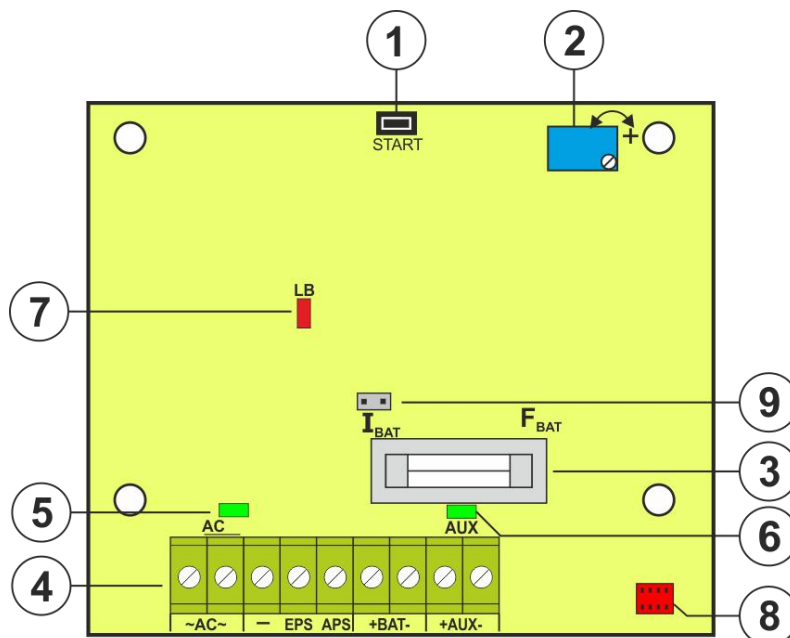
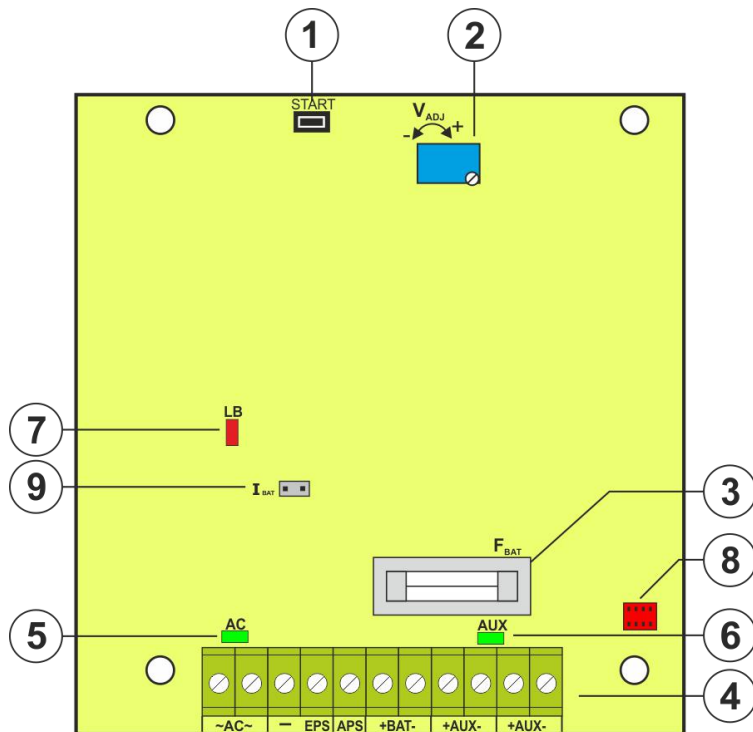
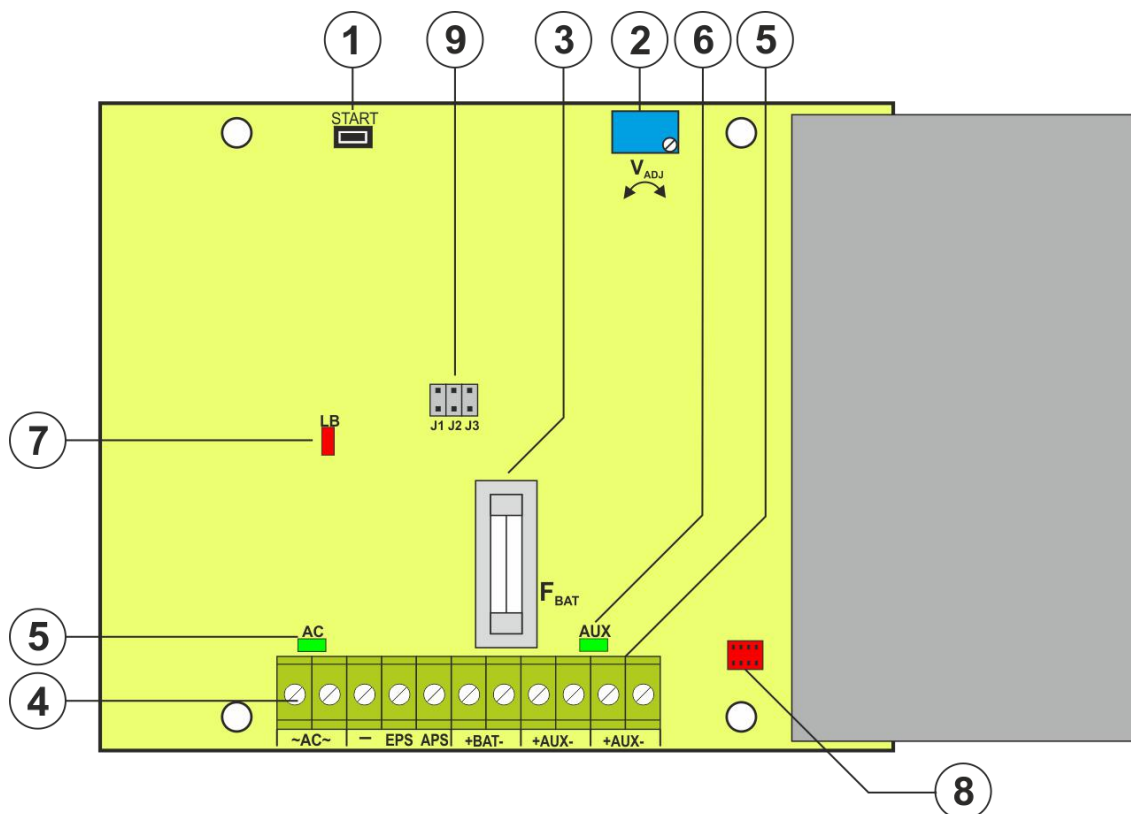

Fig. 2a. View of PCB board of 12V2A model
Fig. 2b. View of PCB board of 12V3A / 24V2A model
Fig. 2c. View of PCB board of 12V5A / 24V3A model
①	START button (launching from battery)
②	$V_{ADJ}$ potentiometer, adjustable output voltage
③	$F_{BAT}$ fuse in the battery circuit
④	Terminals: ~AC~ – AC power input EPS – technical output of AC power loss indication hi-Z state = AC power failure 0V state = AC power - O.K. APS – technical output of battery failure hi-Z state = failure 0V state = PSU status O.K. +BAT- – terminals for battery connection +AUX- – DC power supply output, (+AUX= +U, -AUX=GND) Description: hi-Z – high impedance, 0V – connection to the ground GND
⑤	LEDs – AC – indication of presence of main power
⑥	LEDs – AUX – power supply output voltage indication
⑦	LEDs – LB – battery charging indication
⑧	Connector to the external LED indicators
⑨	Jumper <math>I_{BAT}</math>: – battery charging current configuration  Power supply unit 12V2A (see Fig 2a) <ul style="list-style-type: none"> <li>• <math>I_{BAT}</math> = , <math>I_{BAT}</math> = 0,2 A</li> <li>• <math>I_{BAT}</math> = , <math>I_{BAT}</math> = 0,5 A</li> </ul> Power supply unit 12V3A / 24V2A (see Fig 2b) <ul style="list-style-type: none"> <li>• <math>I_{BAT}</math> = , <math>I_{BAT}</math> = 0,5, A</li> <li>• <math>I_{BAT}</math> = , <math>I_{BAT}</math> = 1,0 A</li> </ul> Power supply unit 12V5A (see Fig 2c) <ul style="list-style-type: none"> <li>• J1=  J2=  J3=  <math>I_{BAT}</math> = 0,5A</li> <li>• J1=  J2=  J3=  <math>I_{BAT}</math> = 1A</li> <li>• J1=  J2=  J3=  <math>I_{BAT}</math> = 2A</li> </ul> Power supply unit 24V3A (see Fig 2c) <ul style="list-style-type: none"> <li>• <math>I_{BAT}</math> = , <math>I_{BAT}</math> = 0,5, A</li> <li>• <math>I_{BAT}</math> = , <math>I_{BAT}</math> = 1,0 A</li> </ul> Description:  jumper installed,  jumper removed